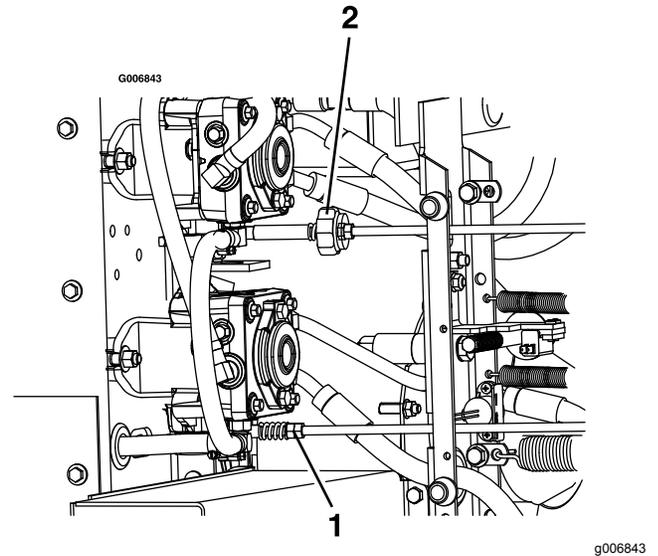

Figure 63
9. To obtain the NEUTRAL position, adjust the left and right pump-control-rod linkages that connect the steering control to the pump-control arms until the wheels stop or creep slightly in reverse (Figure 63).
11. Adjust the right pump linkage by using a wrench to turn the double nuts on the assembly (Figure 63).